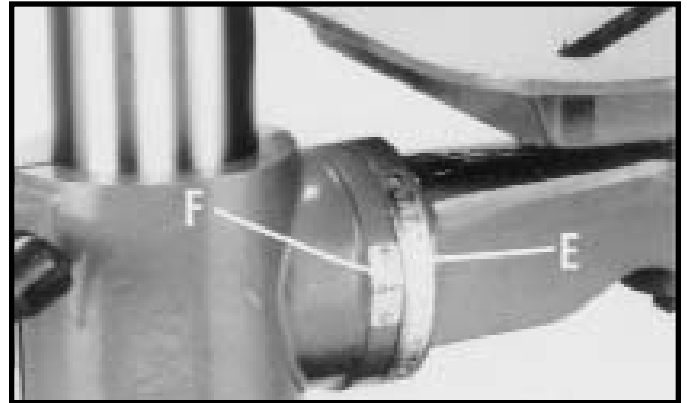

Fig. 22
5. A tilt scale (E) and pointer (F) Fig. 22, are provided on the table bracket casting to indicate the degree of tilt.